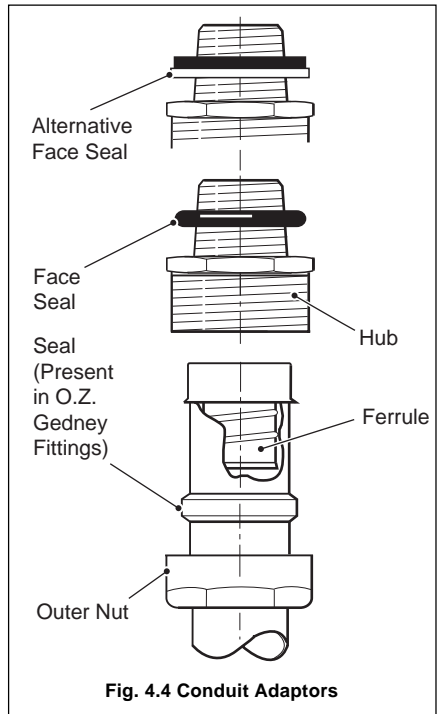

Fig. 4.4 Conduit Adaptors
4.4.2 Conduit (N. American – 0.5in) – Fig. 4.4
Make connections to each input, as shown in Figs 4.4 to 4.14, first removing any factory-fitted wire links not required.